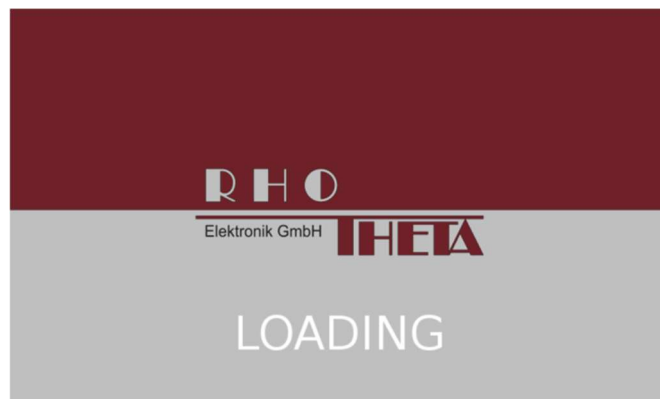

Figure 2. Loading screen
5. When the DCU is turned on, the ON/OFF button lights green and the DCU indicates the loading screen (s. Figure 2).